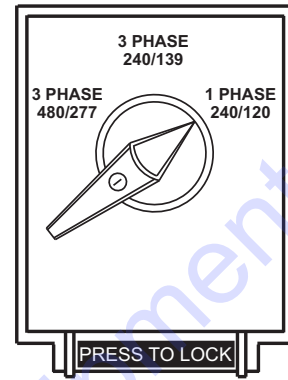

Figure 25. Voltage Selector Switch
1. Place the voltage selector switch in the 1Ø 240/120 position as shown in Figure 25.